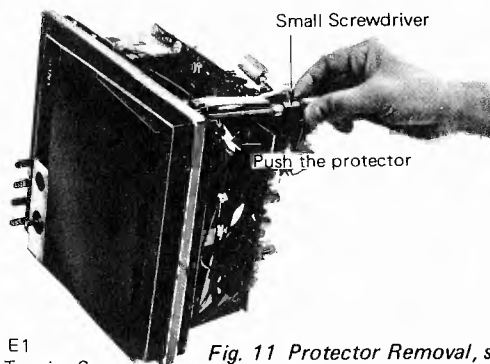

Fig. 11 Protector Removal, step 3.
3. Push slightly on the part of the protector that is unscrewed with a small screw driver as shown in Fig. 11.